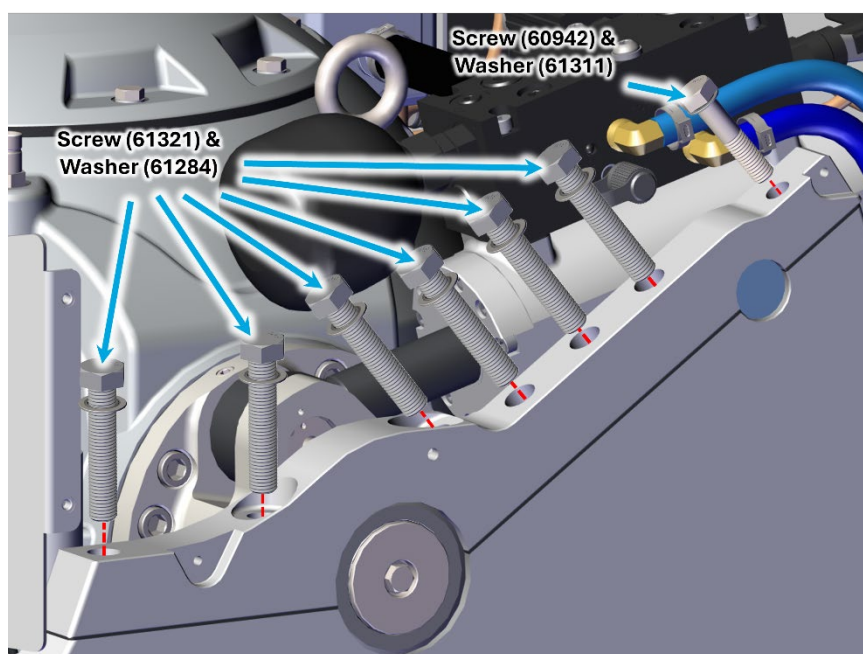

Figure 23: Seakeeper 7.5 gimbal cap details with part nos.
- c. **HAND-TIGHTEN** gimbal cap screws per Figure 23.